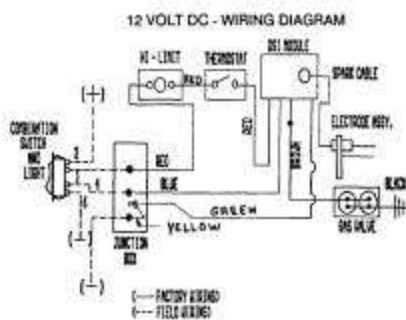

Figure 6
A. Understanding the Operating System - Figures 6 and 7